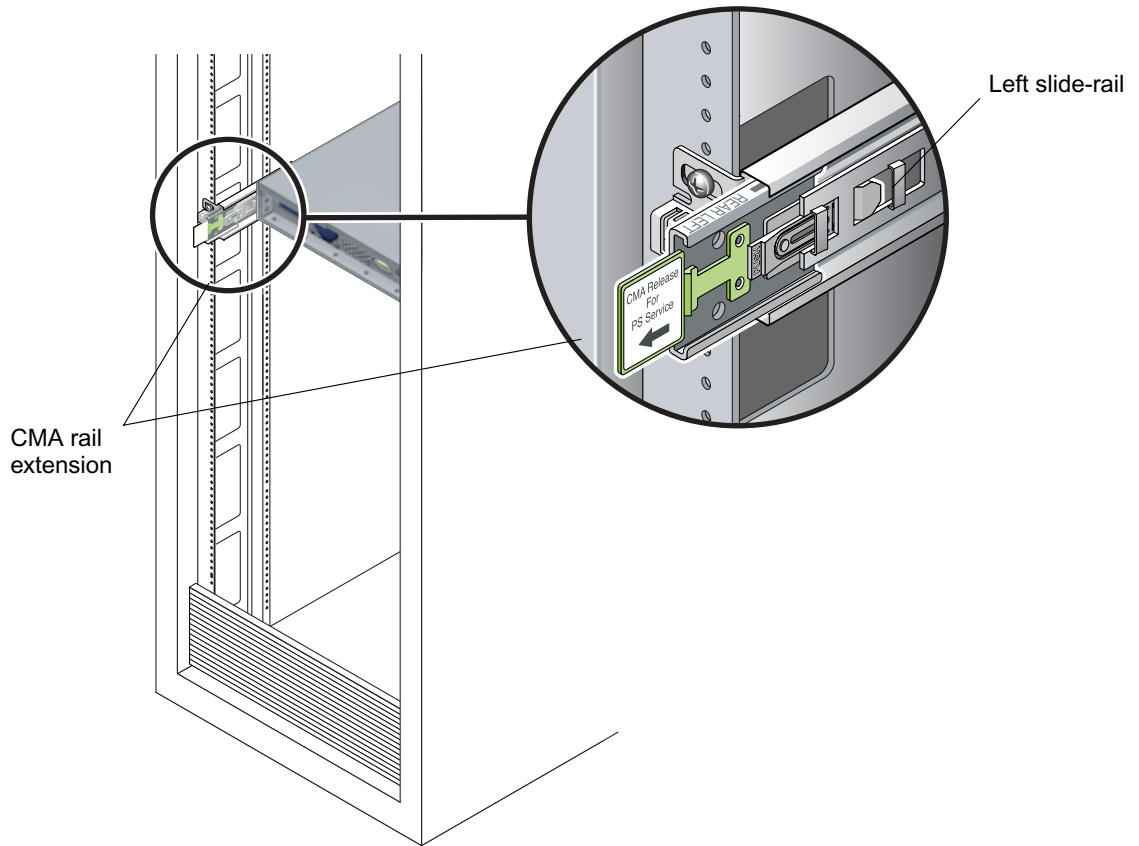

FIGURE 1-9 Detail of CMA Rail Extension Inserted Into the Left Slide-Rail
4. Verify that the CMA rail extension engages the slide-rail, as shown in FIGURE 1-9.